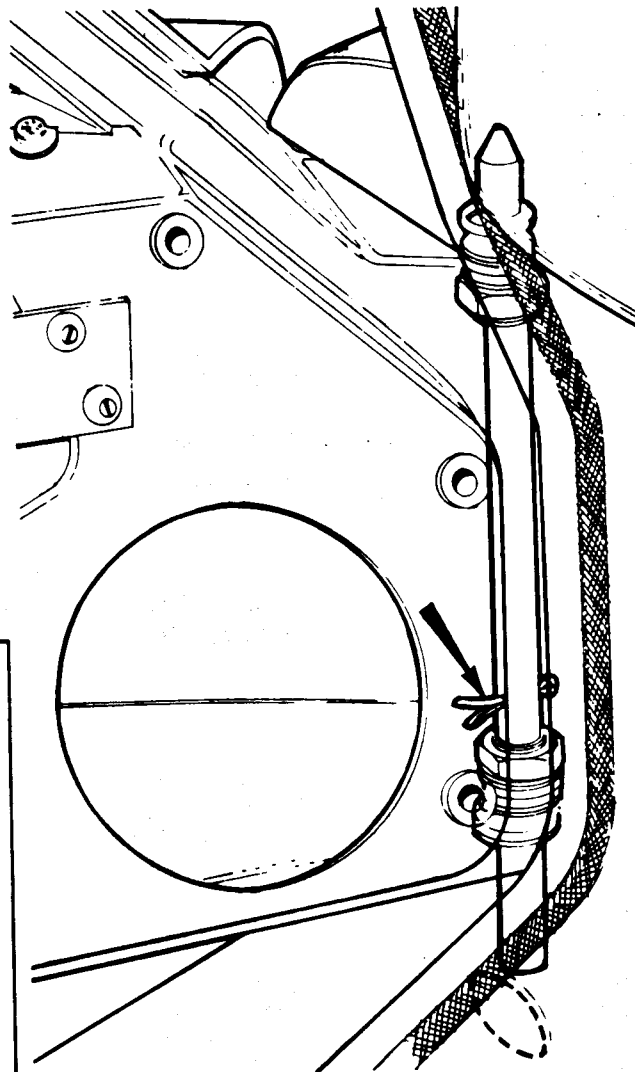

Fig.15 - Removing the Door Hinge.
2. Throughout this stage the weight of the door should be supported. Remove the split pin from the pivot tube (see Fig.15) and, taking care not to mark the surface of the tube unduly, with the aid of a pair of Mole grips or similar tool, push the tube down until it emerges from the hole in the door seal. With the tube completely withdrawn the door may be removed.